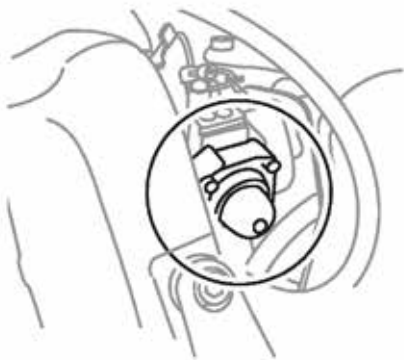

Figure 10. Purge Bulb
2. Carburetor Purge System: Push the purge bulb 4 times or until you see fuel in the bulb (Figure 10).